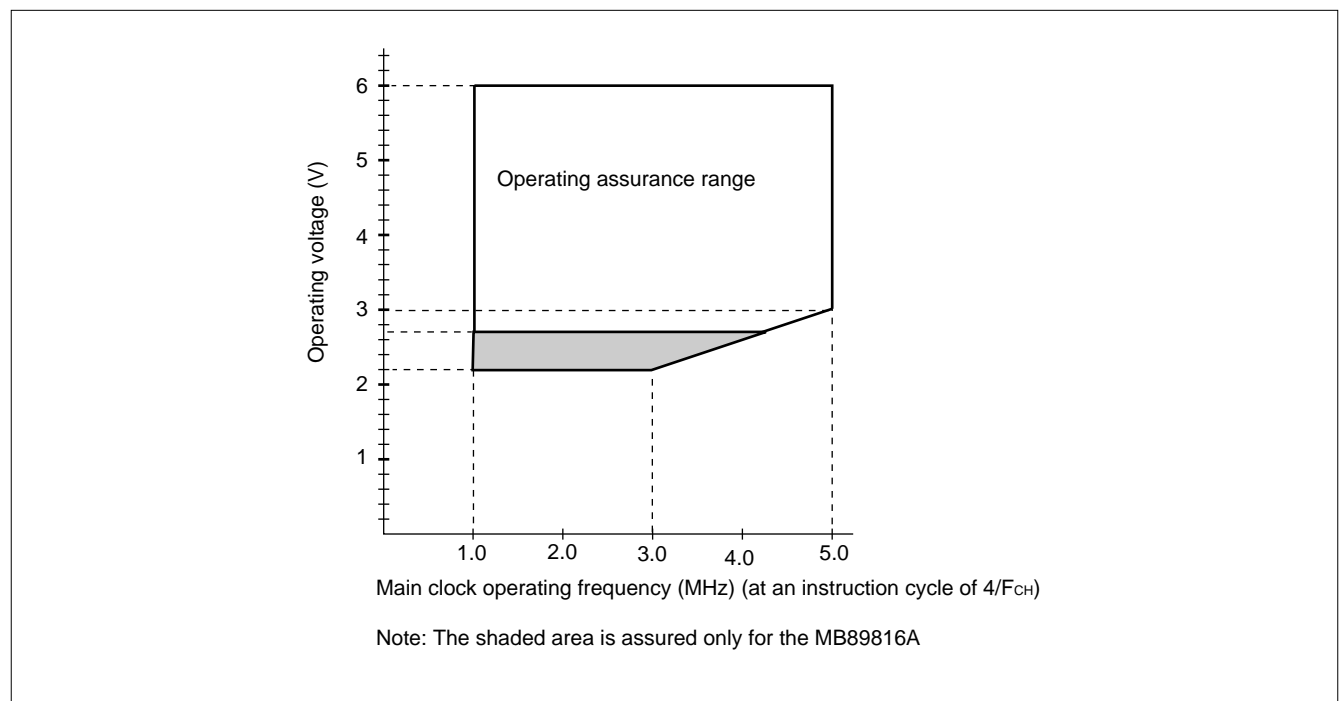

Figure 1 Operating Voltage vs. Main Clock Operating Frequency (for MB89816A)
* : These values vary with the operating frequency. See Figure 1.